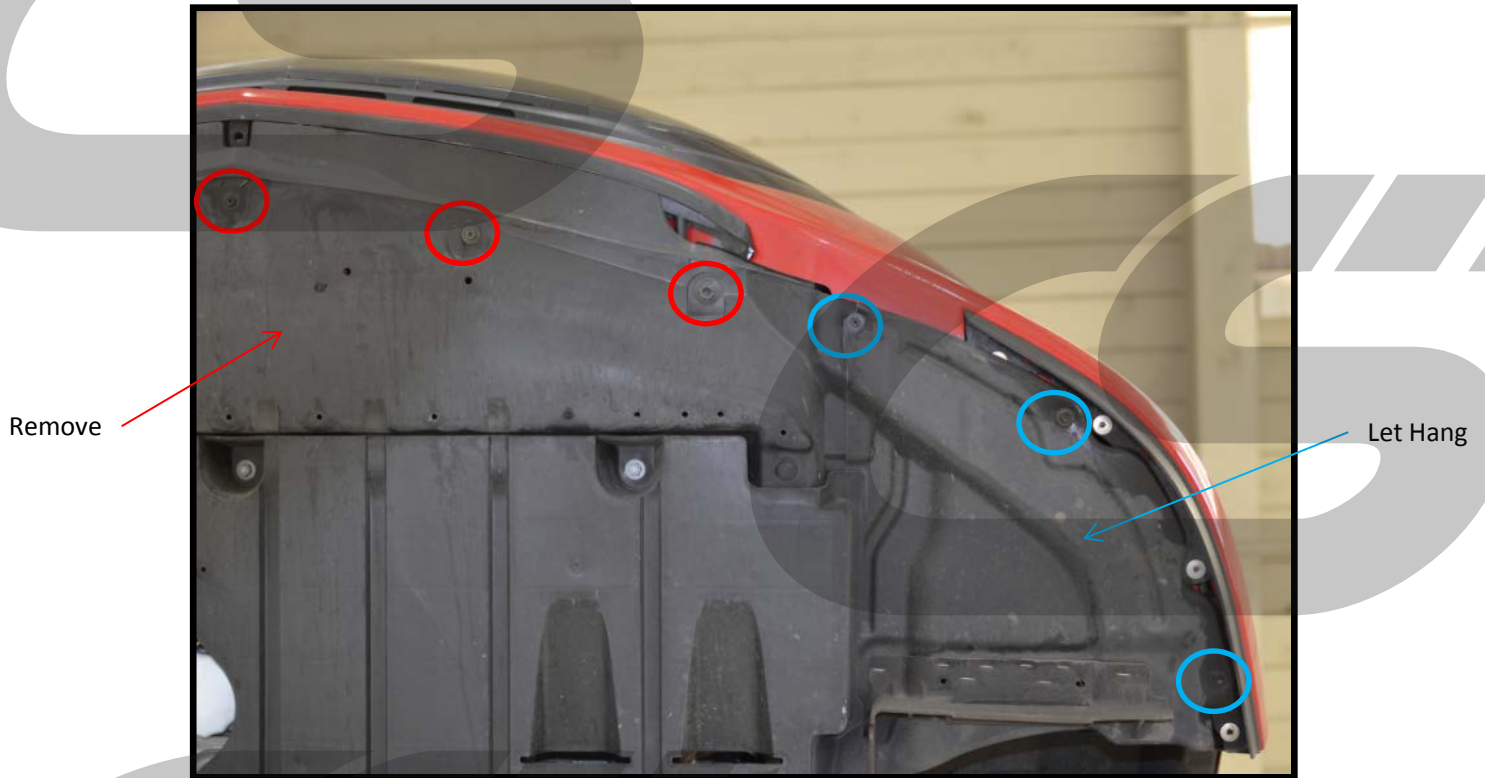

Figure 3a
- a) Remove the bumper under tray with a 8mm socket and ratchet. Use the 8mm socket to remove the screws circled in red then remove the panel (Driver's side pictured in Figure 3a).